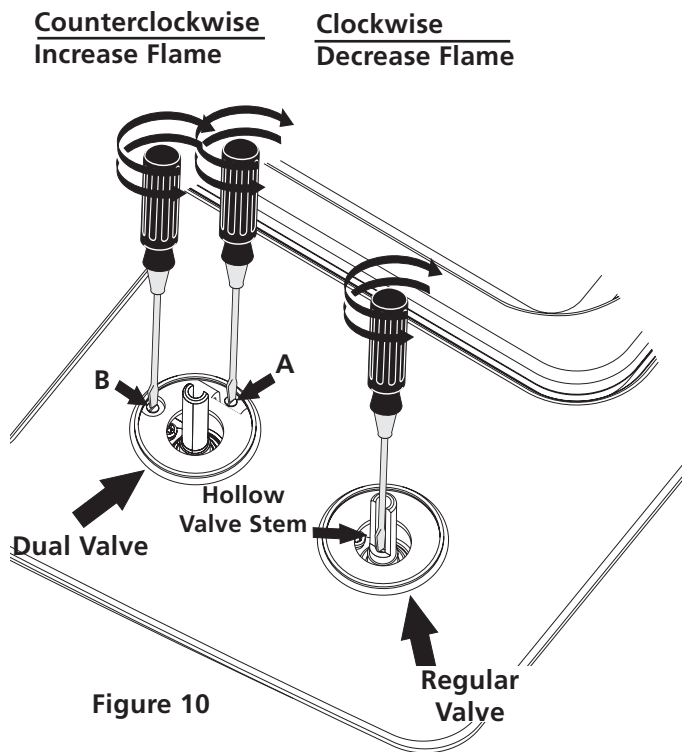

Figure 10
10.4. Adjust the "low" setting for regular surface burner valves (Figure 10)
10.5. Adjust the "LOW" Setting of the Dual Burner Surface Valve (Figure 10)